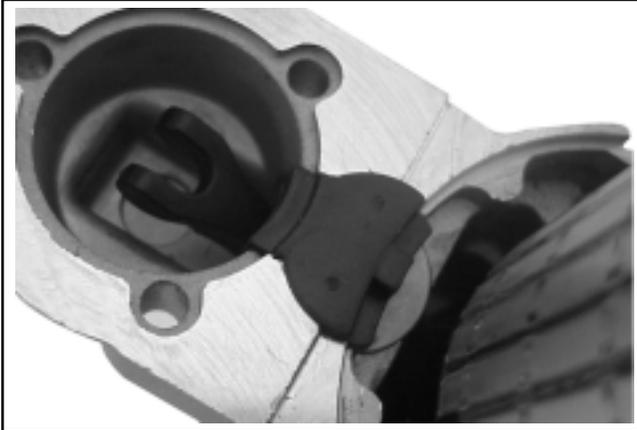

**Figure 8-56. Installing Armature and Pivot Lever.**
**NOTE:** Correctly installed, the center pivot section of the drive lever will be flush or below the machined surface of the housing which receives the backup washer. See Figure 8-56.